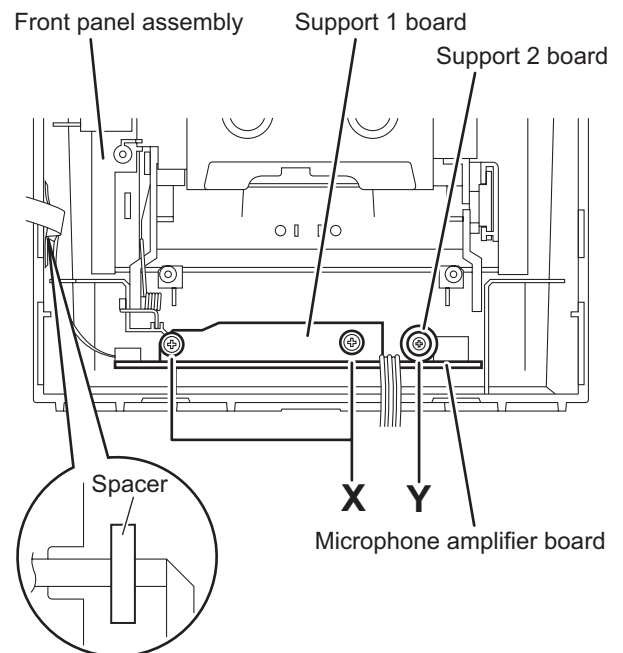

Fig.26
- (2) From the inside of the front panel assembly, remove the two screws **X** and remove the support 1 board. (See Fig.26)
- (3) Remove the screw **Y** and remove the support 2 board. (See Fig.26)
- (4) Take out the microphone amplifier board from the front panel assembly.